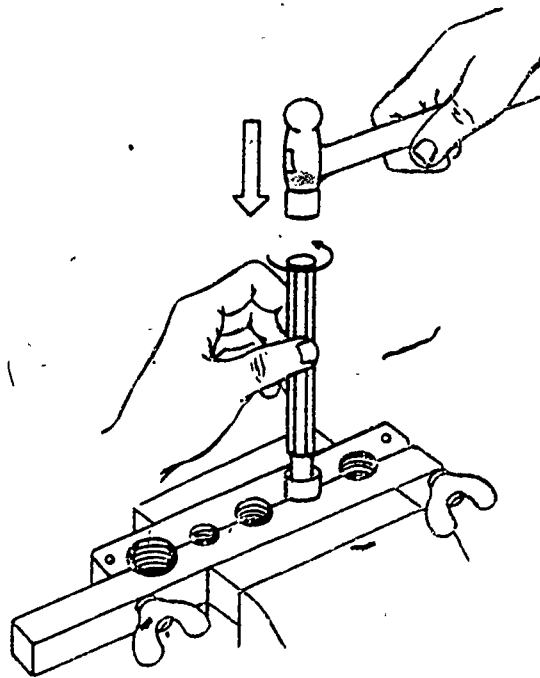

Figure 3-16. Swaging block.
- Extend tube above block a distance equal to the distance from the bottom of the swaging punch to the top of the bevel, as illustrated in figure 3-16.